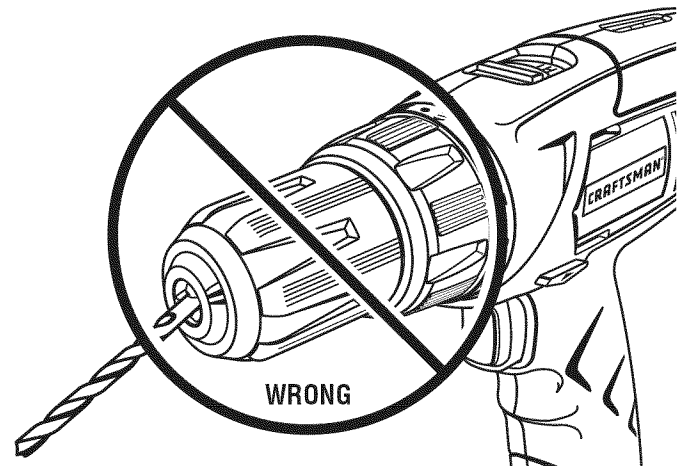

Fig. 11
**WARNING:** Make sure to insert the drill bit straight into the chuck jaws. Do not insert the drill bit into the chuck jaws at an angle then tighten, as shown in figure 11. This could cause the drill bit to be thrown from the drill, resulting in possible serious personal injury or damage to the chuck.